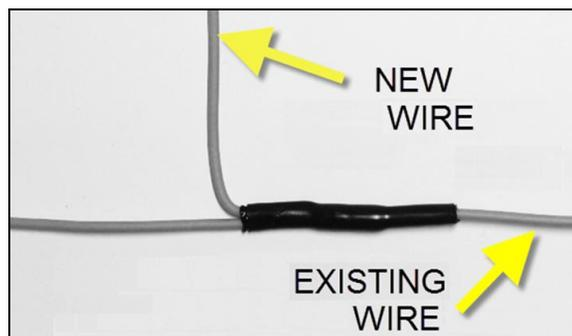

FIGURE 6
15. Seal the splicing with shrink tubing as shown in Figure 6.
23. Seal the splicing with shrink tubing as shown in Figure 6.